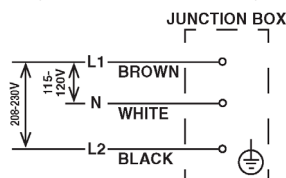

Fig. 3a
- On single phase models, the white lead must be connected to the neutral conductor of the power source. **CAUTION! Miswiring may result in severe damage to the icemaker.** See Fig. 3a.